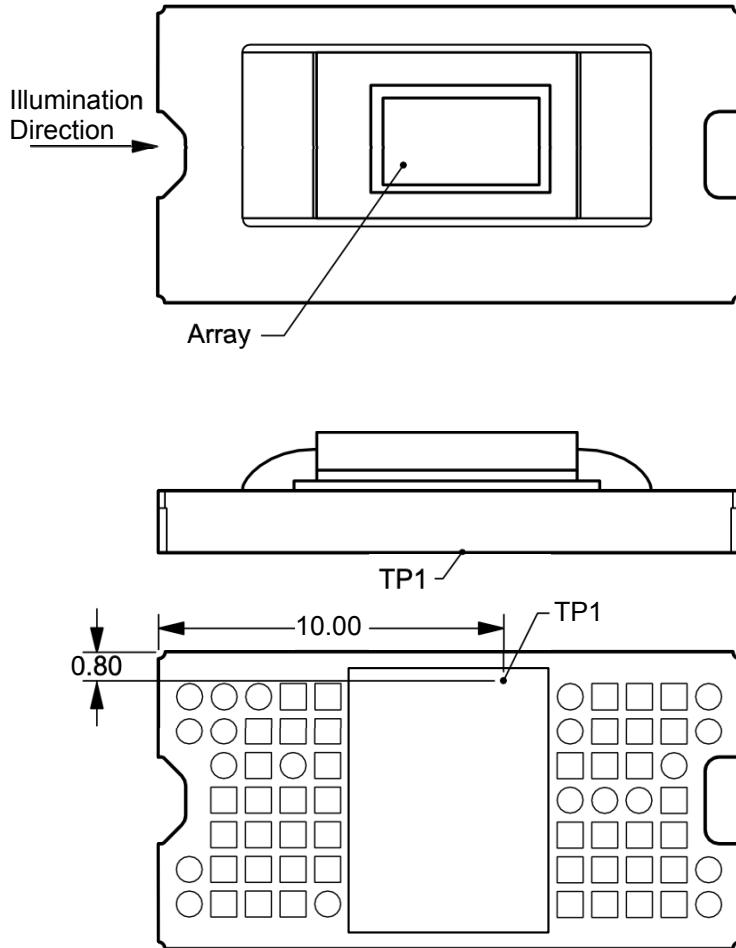

Figure 7-4. Thermocouple Location
Relationship between array temperature and the reference ceramic temperature (thermocouple location TP1 in Figure 7-4) is provided by the following equations.
- $T_{CERAMIC}$ = measured ceramic temperature (TP1 location in Figure 7-4) (°C)